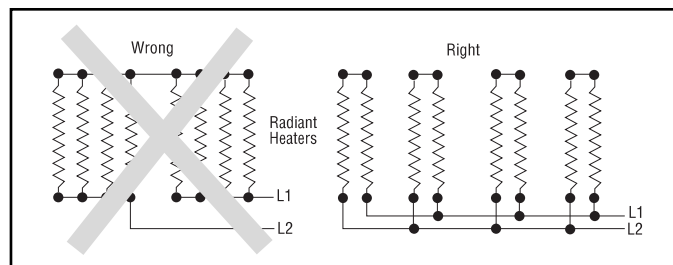

Figure 6 — Series Connection
7. **SERIES CONNECTION** of Radiant Heaters of equal volt and watt rating is permitted in all line voltages up to 600 volts. In making such series connections it is necessary to observe the "right" (series-parallel) connection rather than the "wrong" (parallel-series) connection both shown in Figure 6. If heaters are connected according to the "wrong" illustration, failure of any heater will cause progressive failure of other heaters still operating.